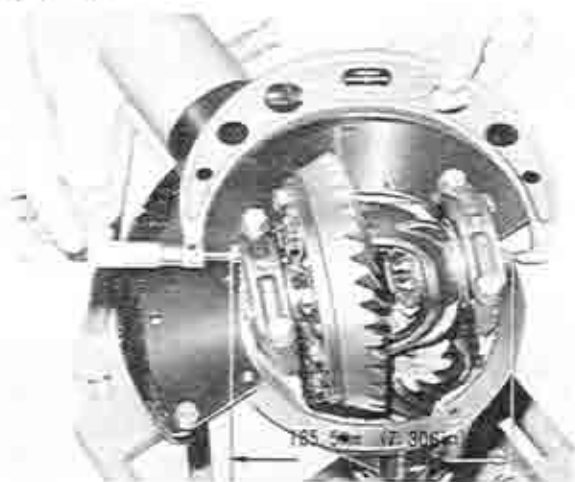

Fig. 9-29 Adjusting of preload
3. The preload on the differential bearings is obtained by tightening the adjusters. Tighten the adjusters until the distance between both pilot sections on the bearing caps becomes 185.5 mm (7.306 in), as shown in Fig. 9-29.